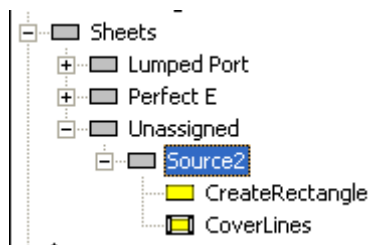

Figure 47. History Tree
- 2 On the **Command** tab edit the fields as shown in Figure 47.